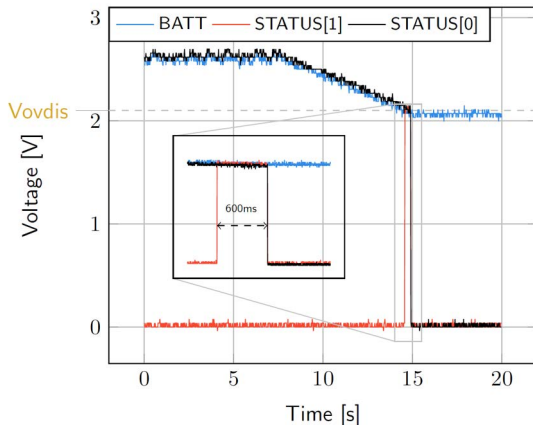

Figure 4: LDOs disabled around 600 ms after *BATT* reaches  $V_{OVDIS}$
- `BATT`: Voltage decreases as the system consumes the power accumulated in the storage element. The voltage remains stable after crossing  $V_{OVDIS}$  (see Figure 4).
- `STATUS[0]`: De-asserted when the LDOs are no longer available as the storage element is running out of energy. This happens 600 ms after `STATUS[1]` assertion (see Figure 4).
- `STATUS[1]`: Asserted for 600ms when the storage element voltage (`BATT`) falls below  $V_{OVDIS}$  (see Figure 4).